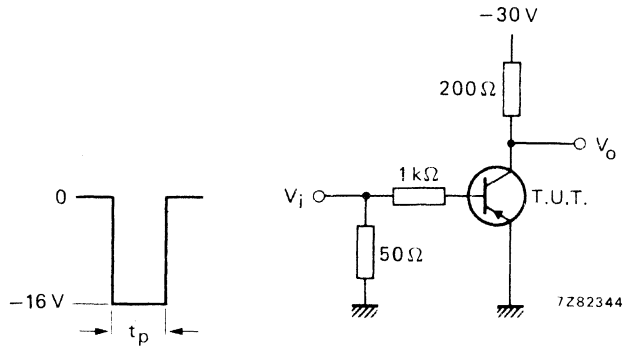
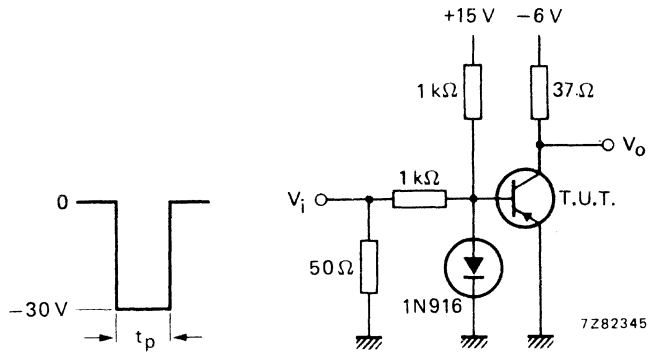

Fig. 3 Turn-on switching time test circuit.
Fig. 4 Turn-off switching time test circuit.
- IC = 150 mA; -IB = 15 mA; (see Fig. 3)
- to cut-off with +IBM = 15 mA (see Fig. 4)
Fig. 3 and Fig. 4